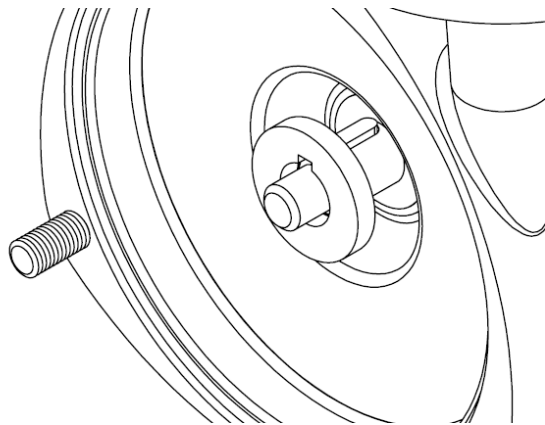

Figure 24
7. Insert the desired impeller shim (SB models only) figure 24.